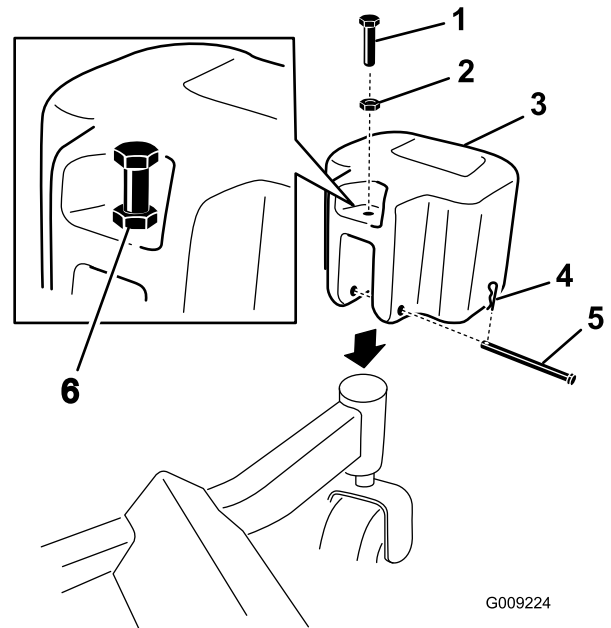

Figure 33
1. Install caster weights on the front casters with a clevis pin and a hairpin cotter (Figure 33).
2. Install the nut onto each tap bolt and install the tap bolts into each weight (Figure 33).